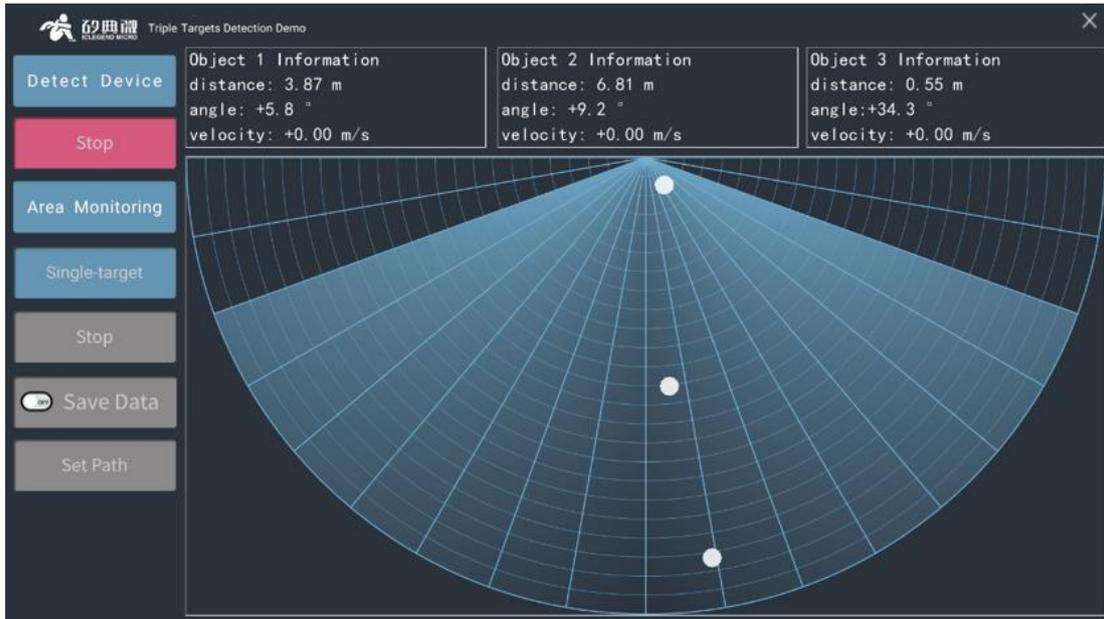

Figure 6-4 Example of triple-target detection demonstration
Step 4: (Optional) By default, the software works in Single Target Detection mode, to switch to Multiple Target Detection mode, click the **Multi-target /Single-target** toggle button, the Triple Targets Detection Demo⁵ will appear, as shown in Figure 6-4; to switch back to Single Target Detection Mode⁶, click the **Multi-target /Single-target** toggle button again.